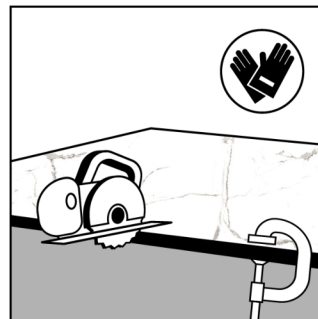

Figure 5
1. To cut the panels you must use a circular saw and recommended blade. **(Figure 5)** The cutting operation should always be done with the printed/decorated side up. Before making the cut, fix the cutting guide to the panel using pressure clamps, we recommend the use of a square to ensure that the cut is straight.